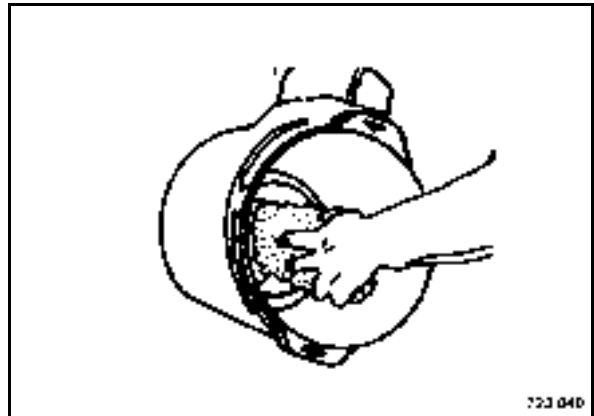

Fig. 140
- Thoroughly clean the inside of the outlet tube (Fig. 140) and the filter housing.